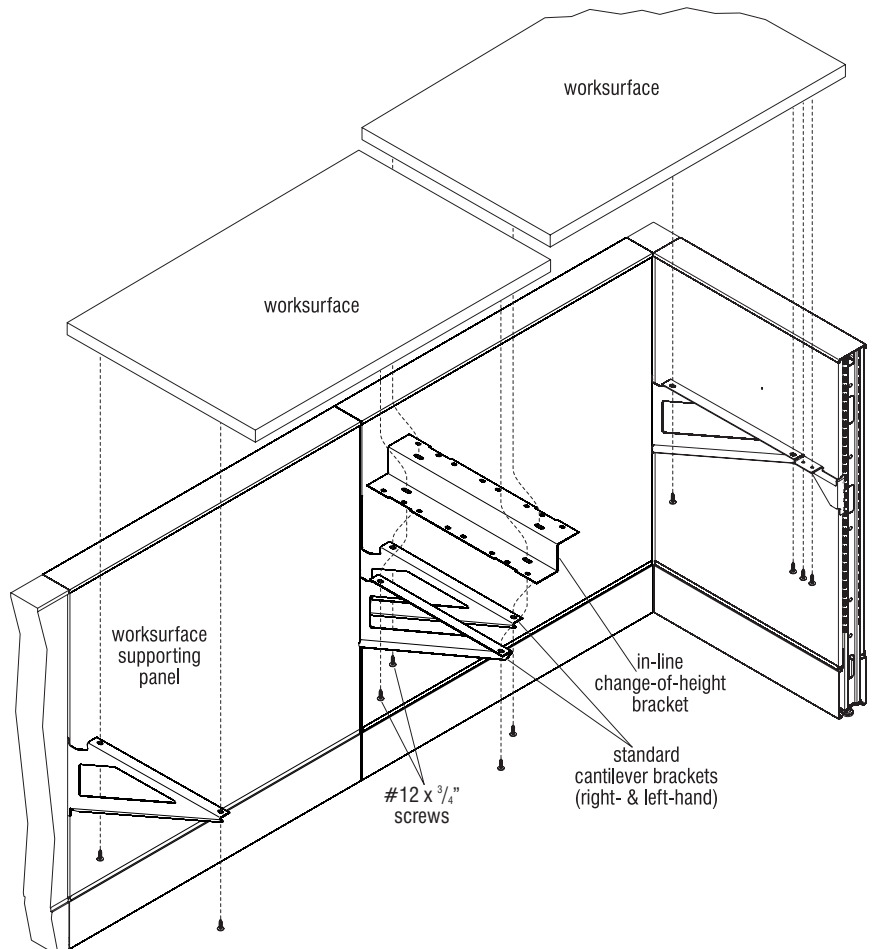

Figure 12 - In-Line Change-of-Height Bracket
aligning mounting holes and slots of brackets (Figure 12 & Detail B).
4. Carefully place worksurfaces onto installed support brackets and change-of-height bracket then align mounting holes of brackets to pre-drilled holes in underside of worksurfaces. Secure using two #12 x 3/4" screws per bracket set. Take care to not over-tighten the screws (Figure 12 & Detail B).